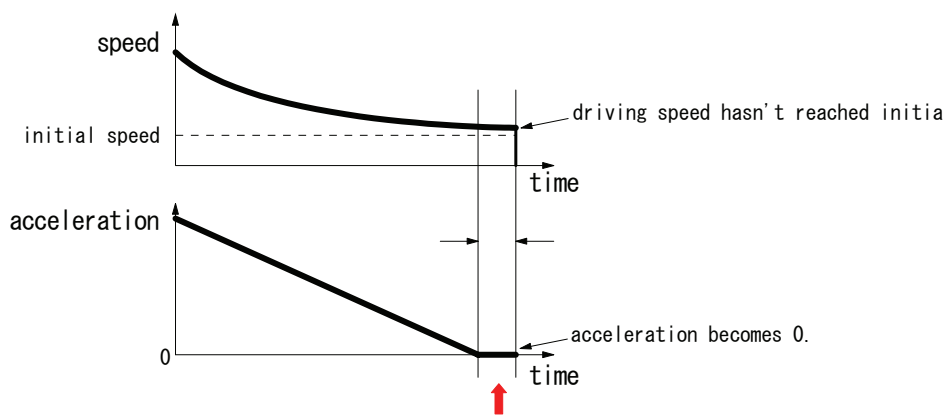

Figure 2. Driving speed and acceleration just before driving completion
- ① When decelerating stop command (26h) was given just before finishing driving
- ② When setting stop mode of hardware limit(nLMTP/M signal) as decelerating stop(WR2/D2=1), driving is started and hardware limit of progress direction becomes active just before finishing driving
- ③ When software limit is enabled(WR2/D0,1=1), driving is started and hardware limit of progress direction becomes active just before finishing driving
- ④ When nSTOP(2~0)signals are enabled(WR1/D5,3,1), fixed pulse driving is started and those signals become active just before finishing driving
Fixed pulse driving in S-curve acceleration/deceleration is performed as that driving speed and initial speed becomes equal and acceleration becomes zero(0) when driving finished ,which means all pulse outputted. But it's impossible to make driving speed & initial speed equal and acceleration zero(0) in all combinations of parameters because of the problem of calculation accuracy. This trouble will happen if it is in the above mentioned occasion ①, ②, ③ or ④ as the factors of deceleration stop accidentally and driving speed hasn't reached initial speed yet but acceleration has become zero(0) showing on Figure 2.